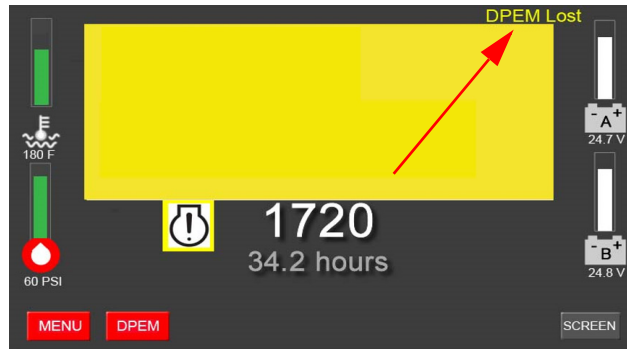

Figure 2-8 DPEM lost fault screen
- **Communications have been lost with the Digital Panel Expansion Module (DPEM).** As shown in Figure 2-8, “DPEM Lost” will appear on the FPDP User Interface Screen if communications between the FPDP and DPEM are compromised.